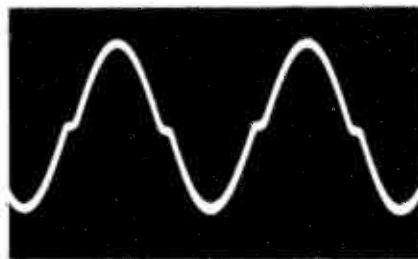

Figure 6
20. Figure 6 illustrates:
Note the progression of readings in Figure 6. Maximum reading of the most-sensitive range is .11 volts. Above that point the meter switches itself to the 1.1-volt range, followed by the 11-volt, 110-volt, and 1100-volt ranges, if the input voltage rises enough. Maximum recommended voltage is 1000 volts DC,